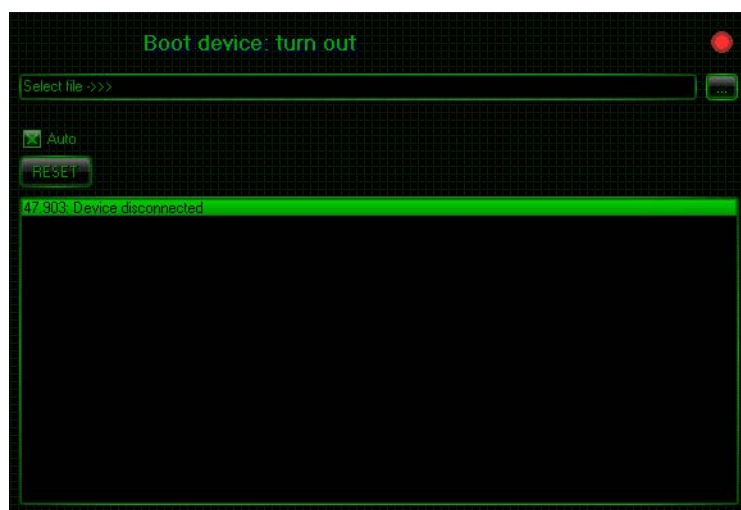

Fig. 1.3.
2. Run *ZBootloader.exe*. You will see that device is turned out (fig. 1.3).